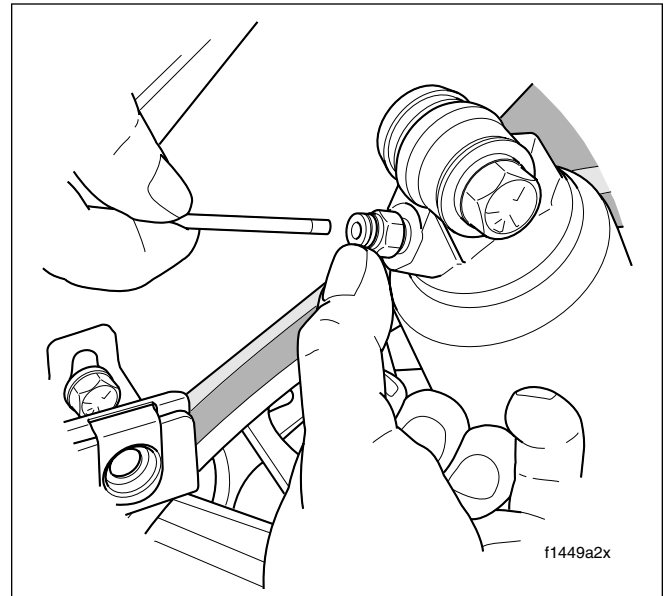

Figure 2-94. Depress Collar on Fitting and Pull Out Air Inlet Tube
5. Depress collar on compression fitting to release air tube. See Figure 2-94.